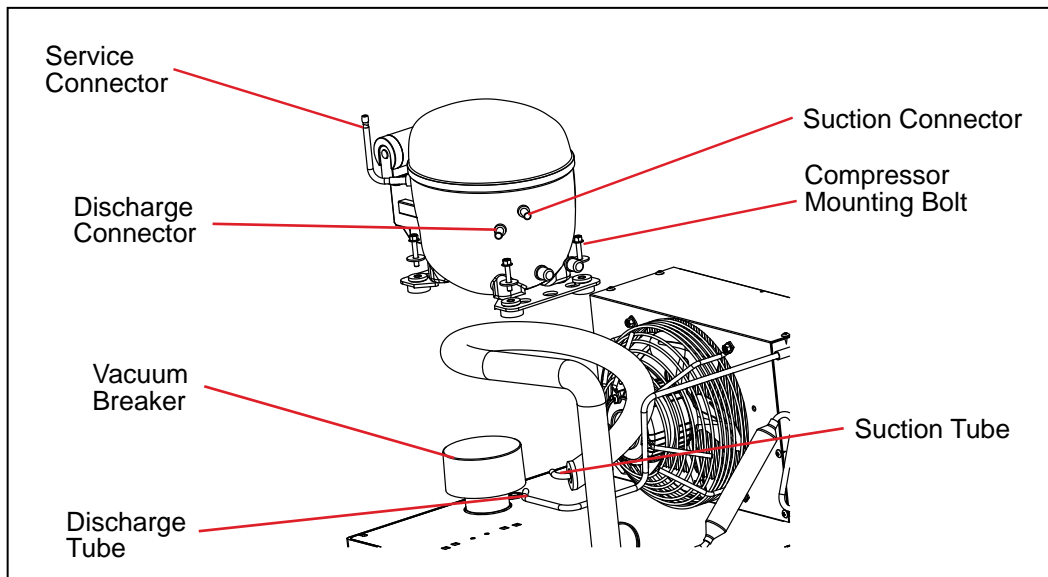

Fig 8-9
5. Loosen the nuts on the compressor. (Fig 8-9)